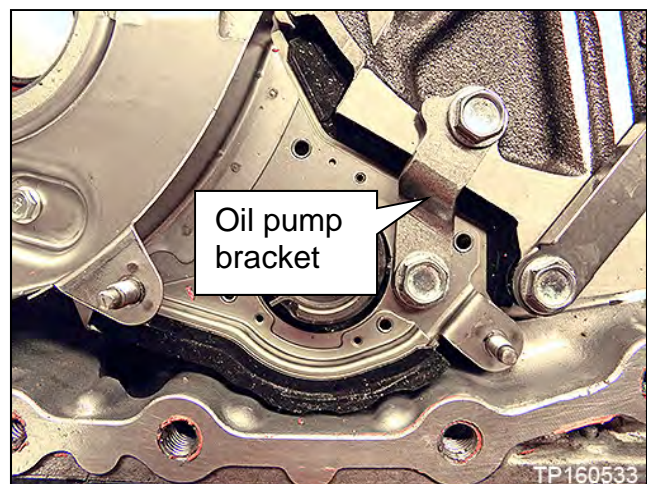

Figure 44
26. Remove the oil pump bracket (Figure 44).
- Retained by two (2) bolts.